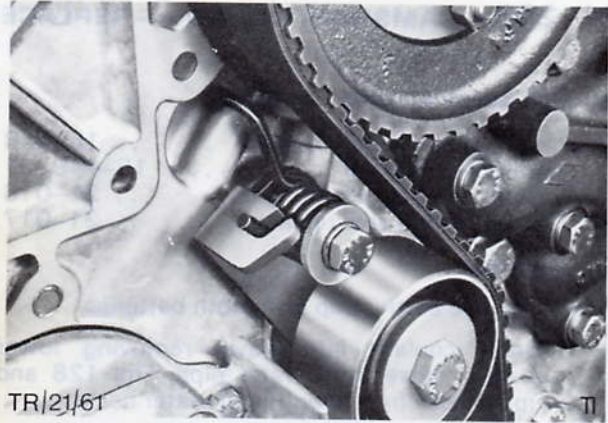

Fig. 131. Slacken toothed belt tensioner
9. Slacken toothed belt tensioner, Fig. 131, reduce tension using screwdriver and remove toothed belt.